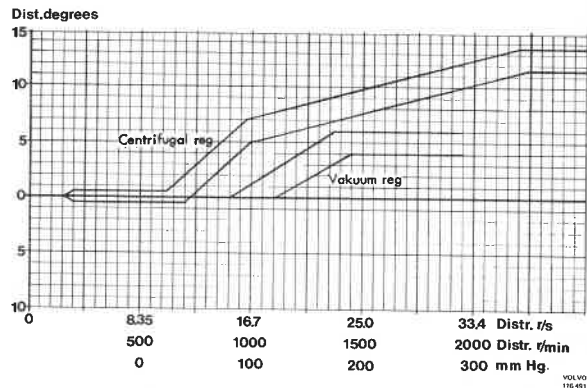

Fig. 34-17. Firing advance curve
4. Run the distributor at low speed and adjust the protractor so that the marking is obtained at 0° . Connect the vacuum hose from the test bench to the vacuum governor. Gradually increase the vacuum and read off the values at the prescribed degrees. Compare the firing advance curve, see Fig. 34-17.